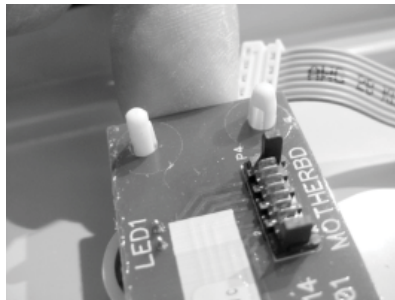

Figure 7 - The first end of the board is released
- c. Repeat this process on its nearest neighbor. See Figure 7.